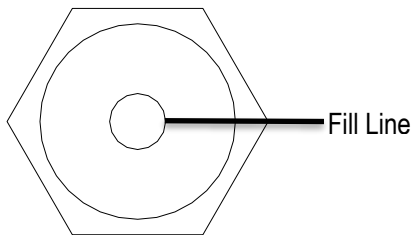

Figure 17
4. Start the unit and run for several minutes. Shut down the air compressor and recheck the oil level. If necessary, add more oil. (Figure 17)